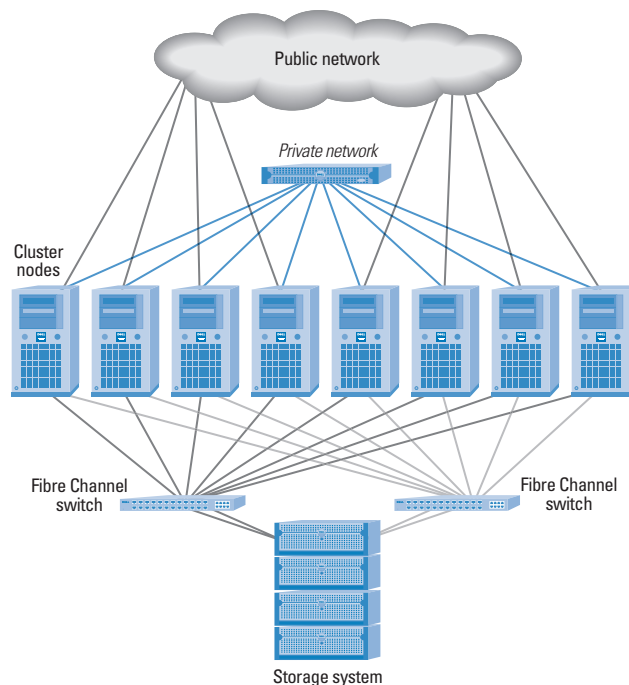

Figure 3. SAN-attached cluster configuration
**SAN-attached cluster.** In a SAN-attached cluster, up to eight nodes are attached to up to four storage arrays through a SAN using a redundant switch fabric. This configuration is designed to enhance the functionality of SAN-attached clusters, making them superior to direct attach clusters in configuration flexibility, expandability, and performance. Figure 3 shows a SAN-attached cluster.